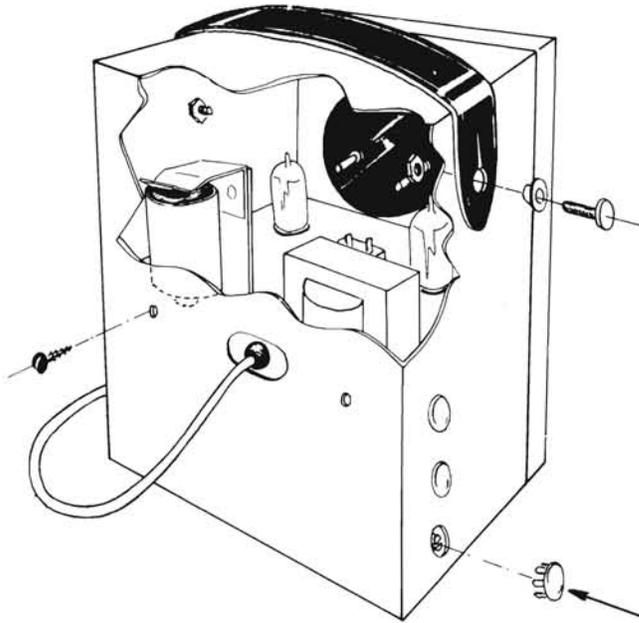

Fig. 14
- 3) Fig. 14. Insert the 12AU7 tube (V1) and the 6AL5 tube (V2) in their sockets and the battery in its holder.
7) Mount the leather handle on the cabinet using two brass eyelets, two #10-24 screws, and two #10-24 nuts. See Fig. 14 for a detailed drawing of the assembly.